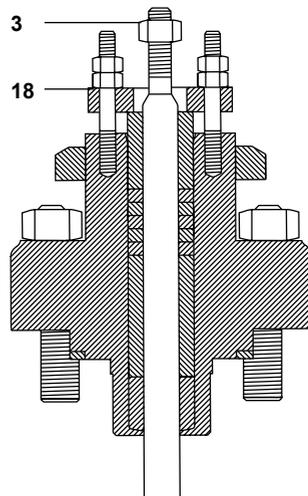

Fig. 11
- Tighten the the stuffing box nuts (18) until:
- ii) Graphite gland assembly: A gap of 12 mm between the underside of the gland flange and the bonnet is achieved. See Figure 11.
- Refit the lock-nut (3).